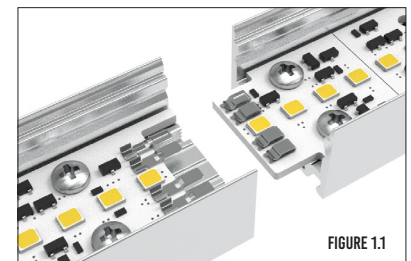

FIGURE 1.1
- Fixtures daisy chain together with Scout Lock™ Technology. See figures 1.1 and 1.2 below.